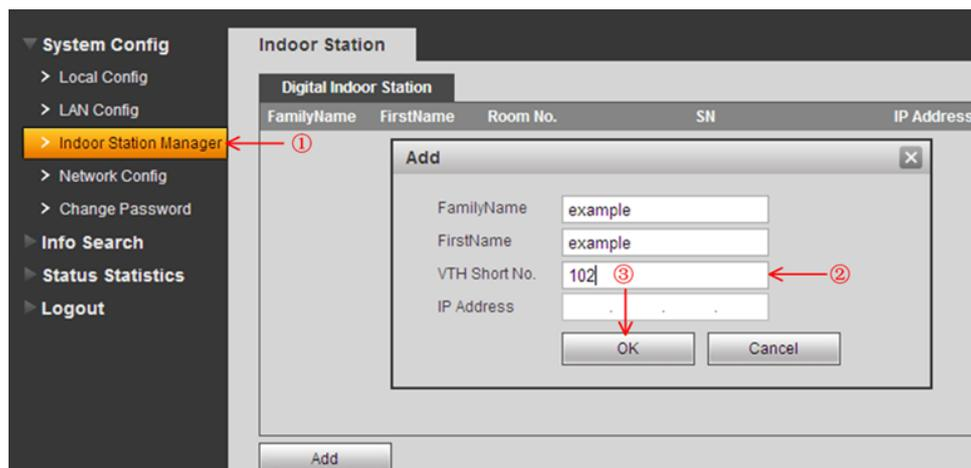

Figure 2-3
**Step 2** Check Indoor Station Manager, click on Add to add one VTH Short No., such as: 102. See Figure 2-3.
**Step 1** Check Product Info, set Room No.(it need be same with the VTH short No. in Figure 2-3), Local IP, Subnet Mask, Gateway, then point OK to save it . See Figure 2-4.